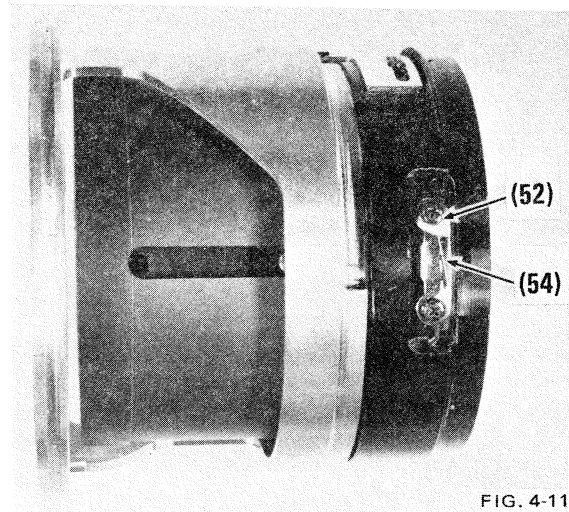

FIG. 4-11
- d) Remove two screws (52) and helicoid guide (54) from each side of the lens. Fig. 4-11.